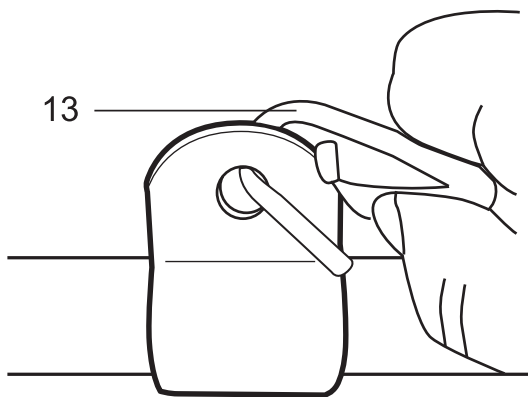

Fig. 31
1. Adjust the position of the suspension sleeve (Fig. 31).